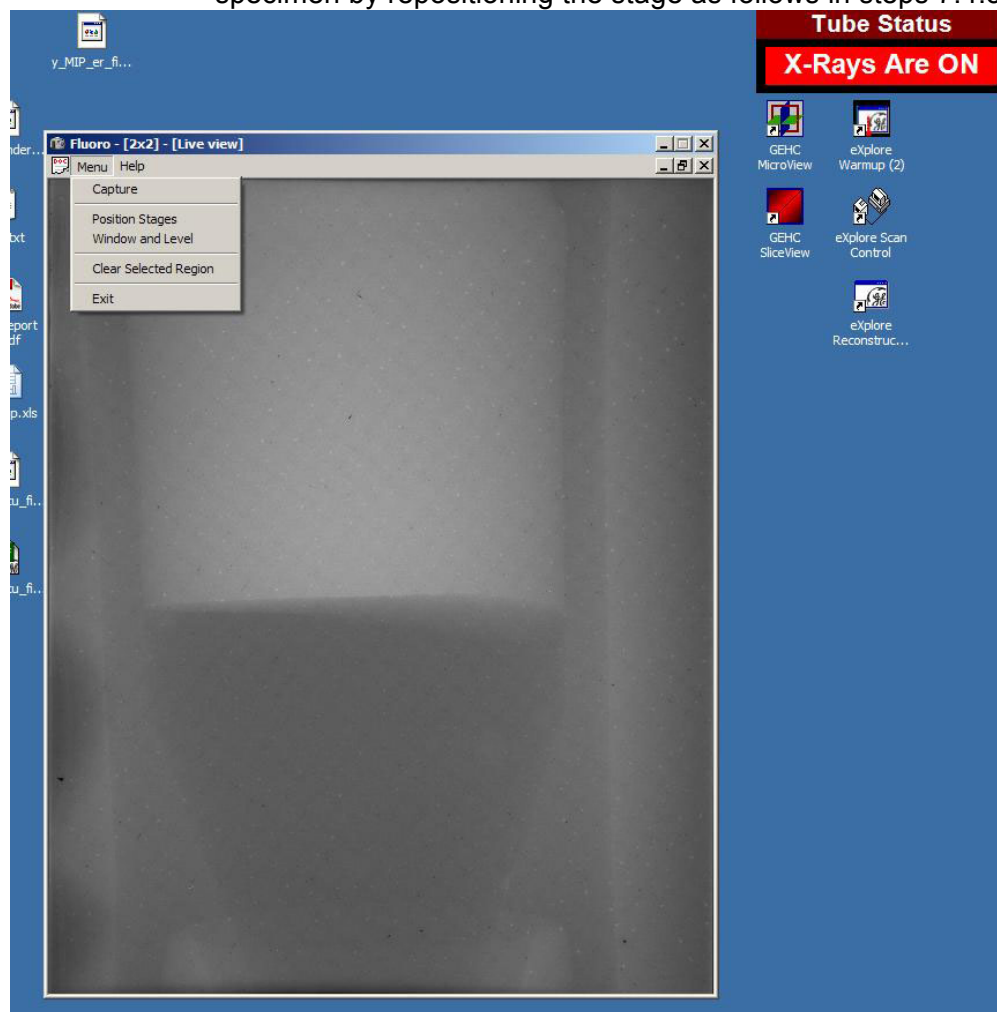
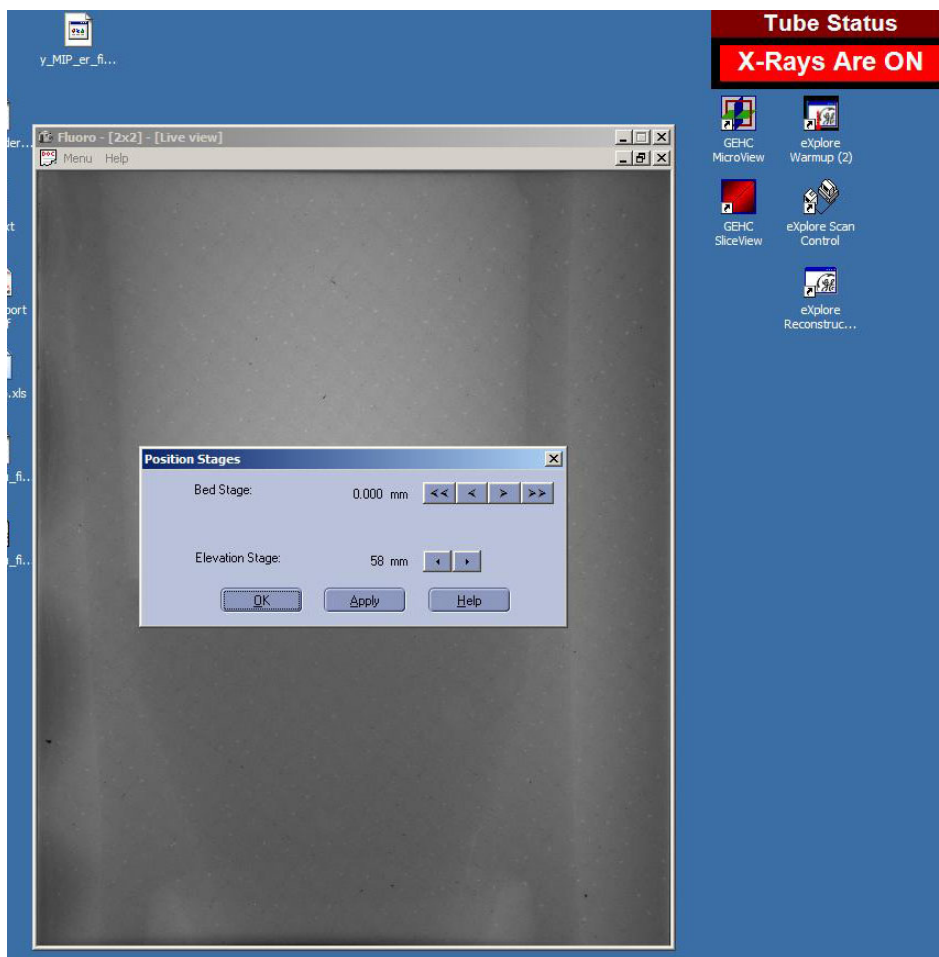

Figure 10: Fluoro Live View - Menu
Figure 11: Positioning stages
- 7.4.3.13. Click **Menu→Position Stages** (see figure 10). Move “**Elevation Stage**” in the **Position Stages** window to center the sample vertically (up and down) in the fluoro image. Click the Left or Right arrows to raise or lower sample. Click **Apply** to view change in elevation position. When the desired sample position has been achieved, click **OK** (see figure 11). Close the Fluoro window.